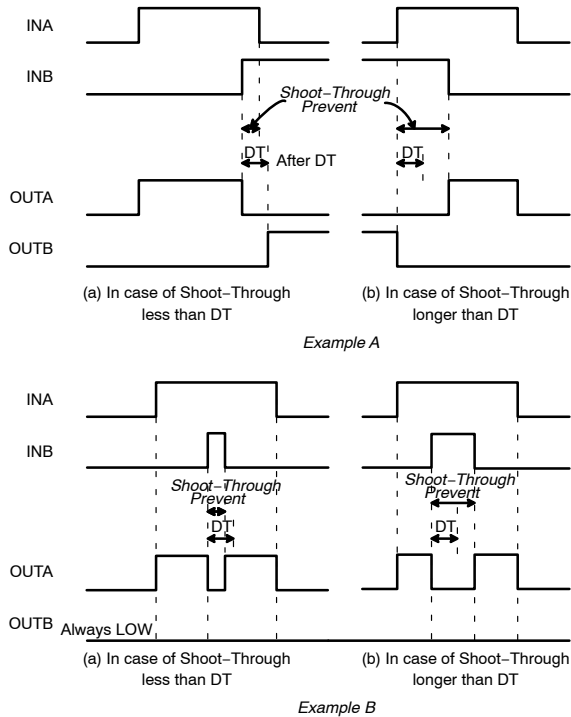

Figure 53. Concept of Shoot-Through Prevention
The cross conduction prevents both high- and low-side switches from conducting at the same time when the dead time (DT) control mode is in half-bridge type, as shown in Figure 53.